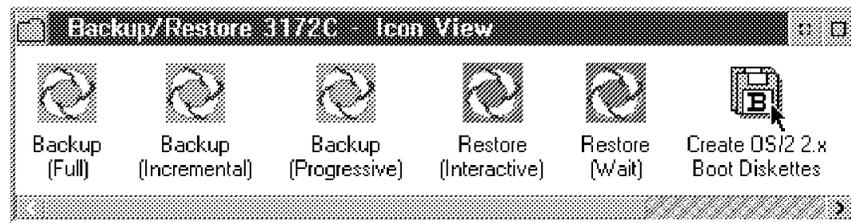

Figure 198. Creating Your OS/2 Boot Diskettes
- Step 3. Select the **Create OS/2 2.x Boot Diskettes** program from the SaveUtility/2 folder as shown in Figure 198 on page 312 to create the OS/2 boot diskettes.